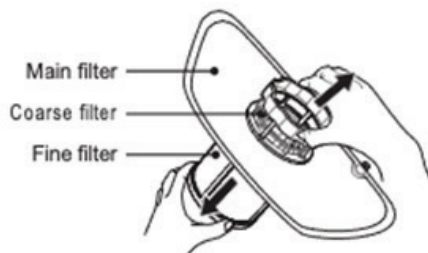

Figure 25- The filter assembly once removed from the dishwasher cabinet base.
Step 2 With the filter assembly removed from the dishwasher, the fine filter can be pulled off the bottom of the filter assembly (refer to figure 25 below). This fine filter is covered by a fine mesh. Rinse this under running water from your tap and wipe any residual food residue off the filter.